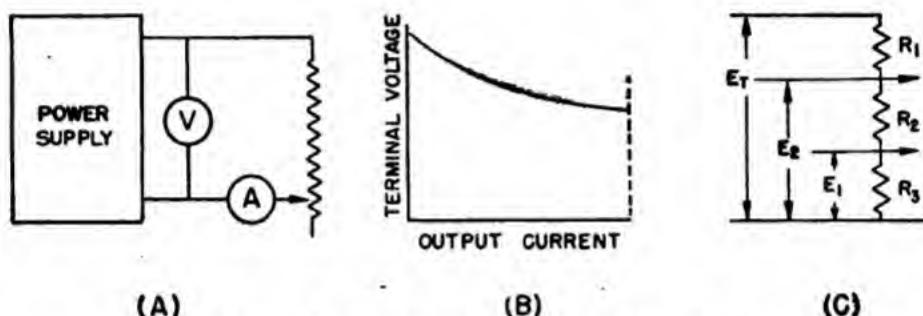

Figure 39.—Voltage regulation circuit.
You have in figure 39 a simple circuit that helps you obtain these data. Connect a variable resistance across the terminals of the power supply. By varying this resistance, you determine the terminal voltage over a wide range of load-current values. If you plot these values in a graph, you obtain a characteristic curve similar to that of figure 39 (B). With the information contained in this graph, you can design a voltage-divider or alter any existing
Before proceeding with the actual design of a voltage-divider, you must get one more value. Look at figure 39 (C). When two voltage levels are required, you use THREE resistors. Resistor R_3 , referred to as the **BLEEDER RESISTOR**, stabilizes the voltage at the other taps. When the power supply has excellent regulation and the current drawn from the taps is fairly constant, you may eliminate this resistor. Because power supplies rarely have excellent regulation, this third resistor is usually included.